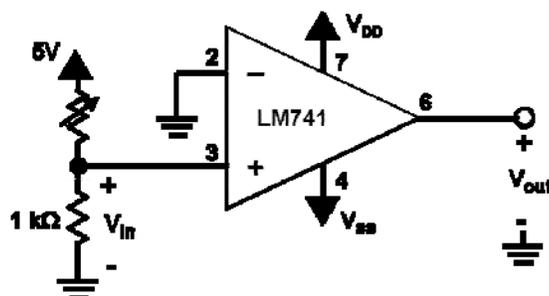

Figure 6: Open-loop op amp
17. One condition of the ideal op amp is that the open-loop gain is infinite. Let's see how a real op amp behaves. Build the circuit shown in Figure 6.